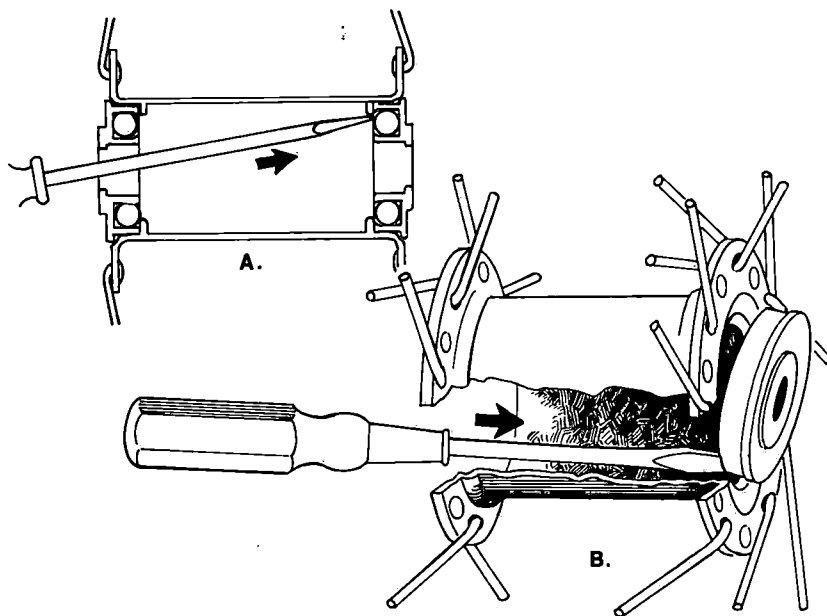

Figure 3
1. Place the tip of a flat-blade screwdriver at an angle against the outer ring of the bearing. See figure 3 before you proceed.